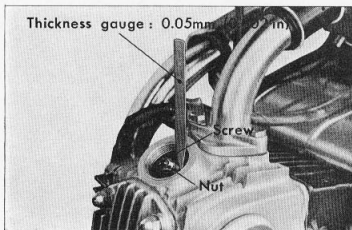

Figure 6-4. Adjusting tappet clearance
- Remove the tappet adjusting cap on the cylinder head and check the clearance between the adjusting screw and the valve. (Fig. 6-4)